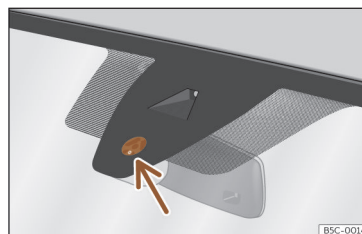

Fig. 99 Rain sensor sensitive surface
Possible causes of faults and mistaken readings on the sensitive surface »» Fig. 99 of the rain sensor include:
- Regularly clean the sensitive surface of the rain sensor »» Fig. 99 (arrow) and check for possible damage to the wiper blades.